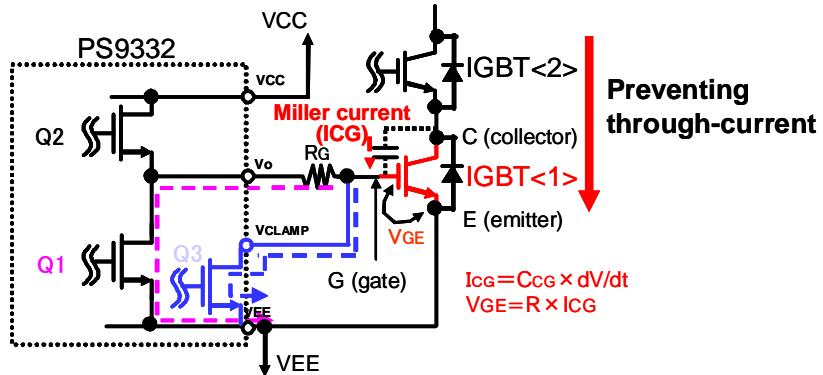

Figure 3.3 Active Miller Clamp
When IGBT <2> in the half-bridge circuit in Figure 3.3 is turned on, a steep voltage ( $dV_{CE}/dt$ ) is applied between the collector and emitter (CE) of IGBT <1>. At this time, Miller current ( $I_{CG}$ ) briefly flows to the gate resistor ( $R_G$ ) of the IGBT and the Q1 MOSFET in the PS9332, via the CG Miller capacitor of IGBT <1>. This causes the gate voltage of IGBT <1> to rise, and if the gate voltage then exceeds the threshold voltage, parasitic turn-on will occur, causing through-current to flow.